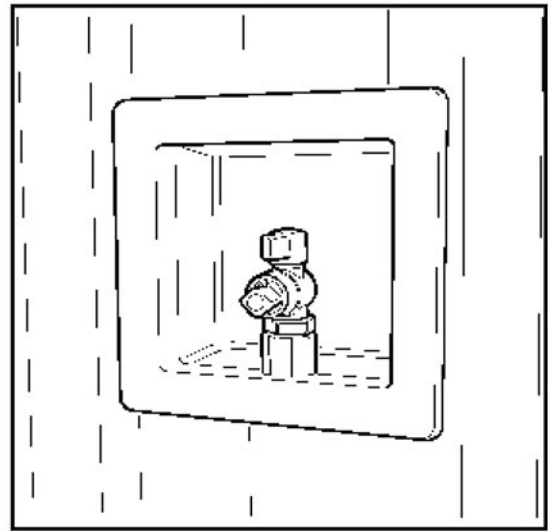

Figure: 4-33
8. Install box cover after completion of dry-wall. If the gap between the edges of the box and the drywall is less than 1/4", no fire caulking is required. Figure: 4-33